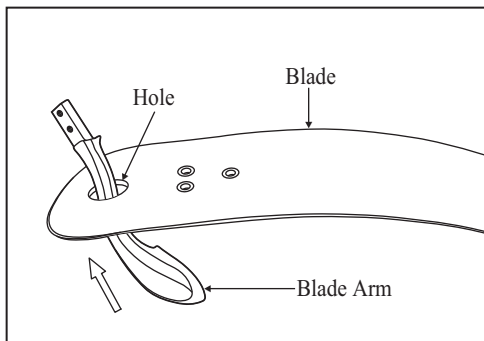

Figure 13
1. Insert the blade arm to the hole in the front of blade (Fig. 13).